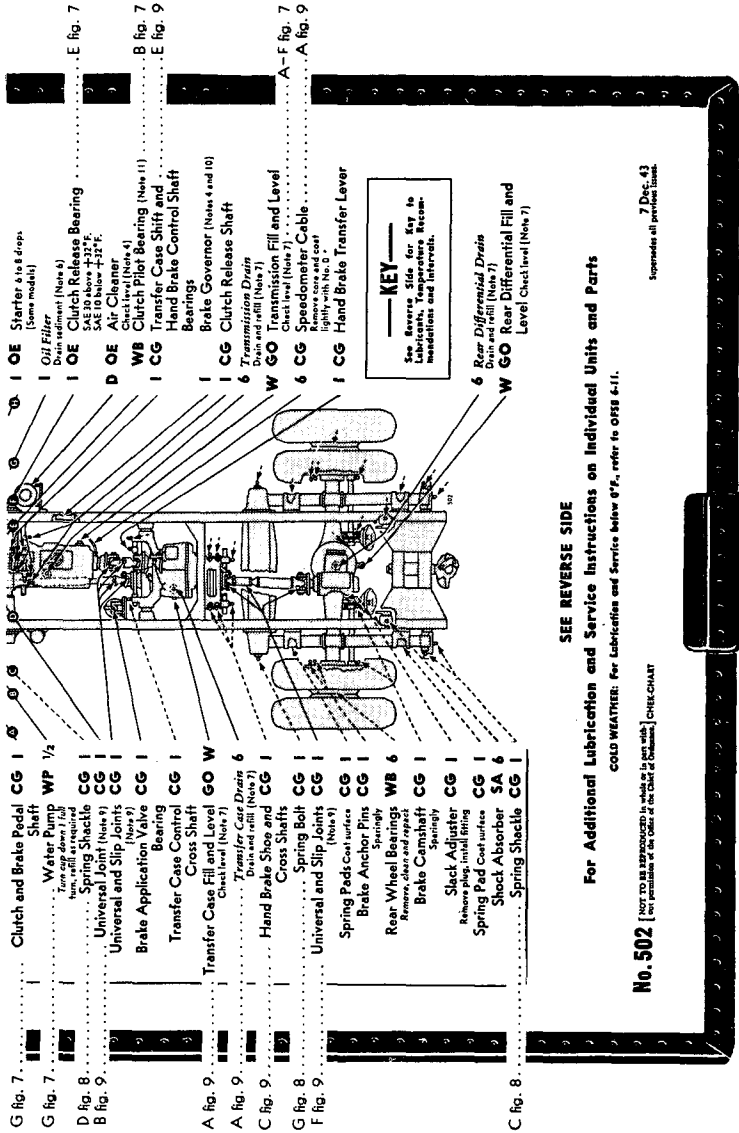

Figure 5 — Lubrication Guide — Tractor
a. War Department Lubrication Guide No. 502 (figs. 5 and 6) prescribes lubrication maintenance for 4- to 5-ton 4 x 4 Tractor Truck (Autocar Model U-7144 T). The Guide is supplemented in this manual with localized views of important lubrication points (figs. 7, 8, and 9).